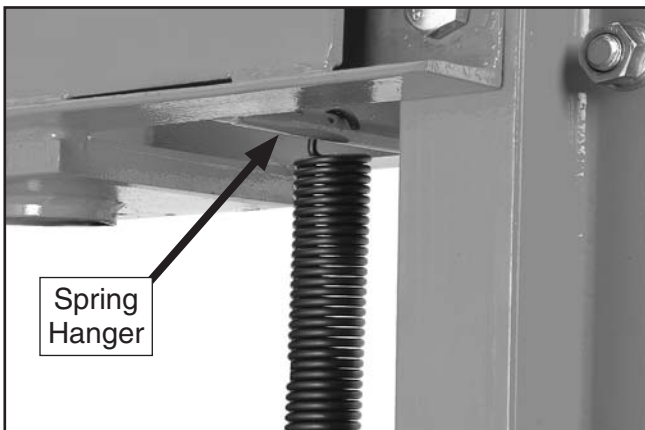

Figure 9. Return spring installation.
- Install both eye bolts onto the springs, and install the springs onto the spring hangers so they span the upper cross-support rails, as shown in **Figure 9**.